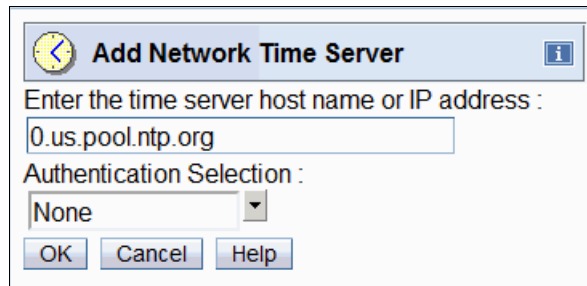

Figure 9-6 HMC: Customize Console Date and Time Add Network Time Server
4. The Add Network Time Server window opens. In this window, you can set the values in the following fields, and click **OK** when you finish (Figure 9-6 on page 516).